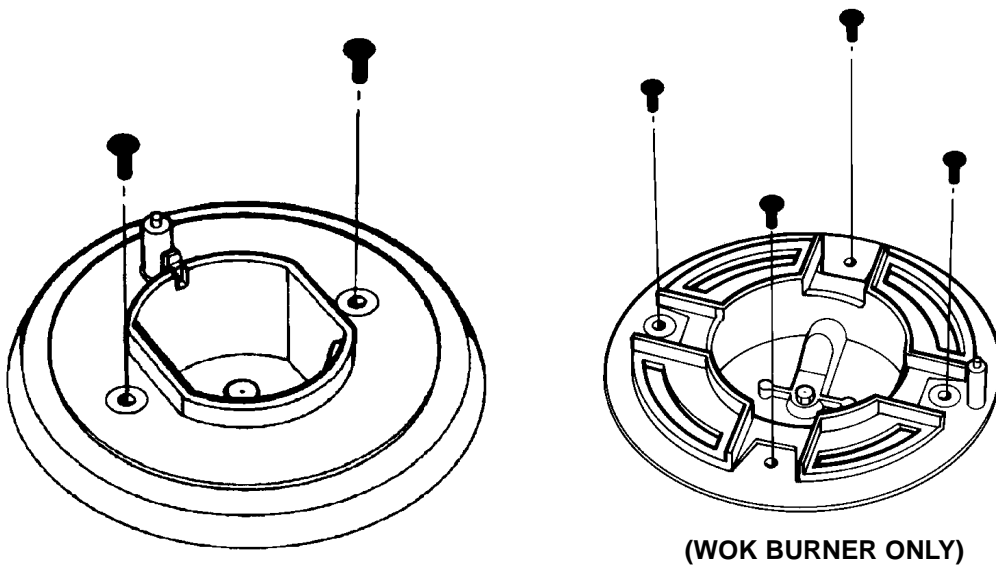

FIG. 4
- b) Remove all of the screws retaining hotplate burner trims (4 from Wok burner, 2 each from the other three burners). (See Fig. 4).